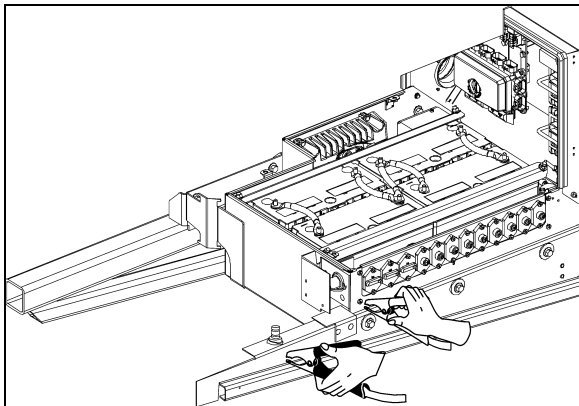

FIGURE 21: BOOSTER BLOCK
On X3-45 coaches, booster block is located near the batteries in the engine compartment on the R.H. side and is accessible through engine R.H. side door (Fig. 21).
1. Connect one end of one red jumper cable to the positive (+) terminal of the booster power source and the other end to the positive (+) post of the booster power block, located on the R.H. side of the engine compartment (refer to fig. 21).